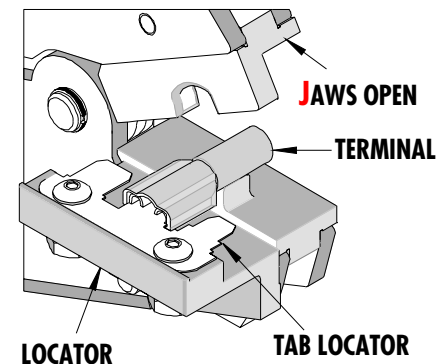

Figure 1
2. Push the terminal onto the tab locator all the way to the stop in the color-coded nest. The barrel of the terminal should be up. See Figure 1.